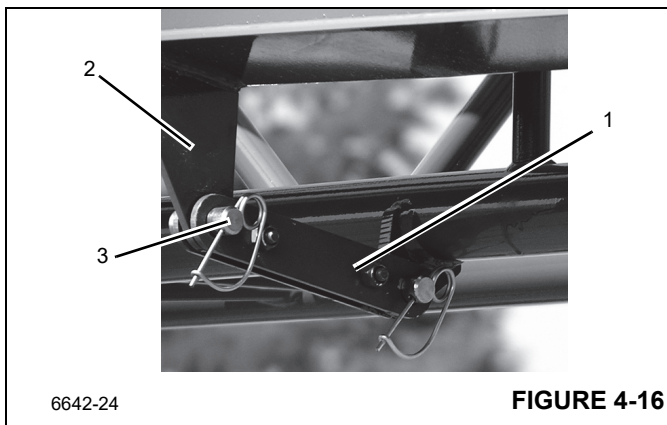

FIGURE 4-16
- e. Connect locking bar (9, Figure 4-20; 1, Figure 4-16) to boom extension base section attachment bar (2) using pin (3). Secure with retaining clip.